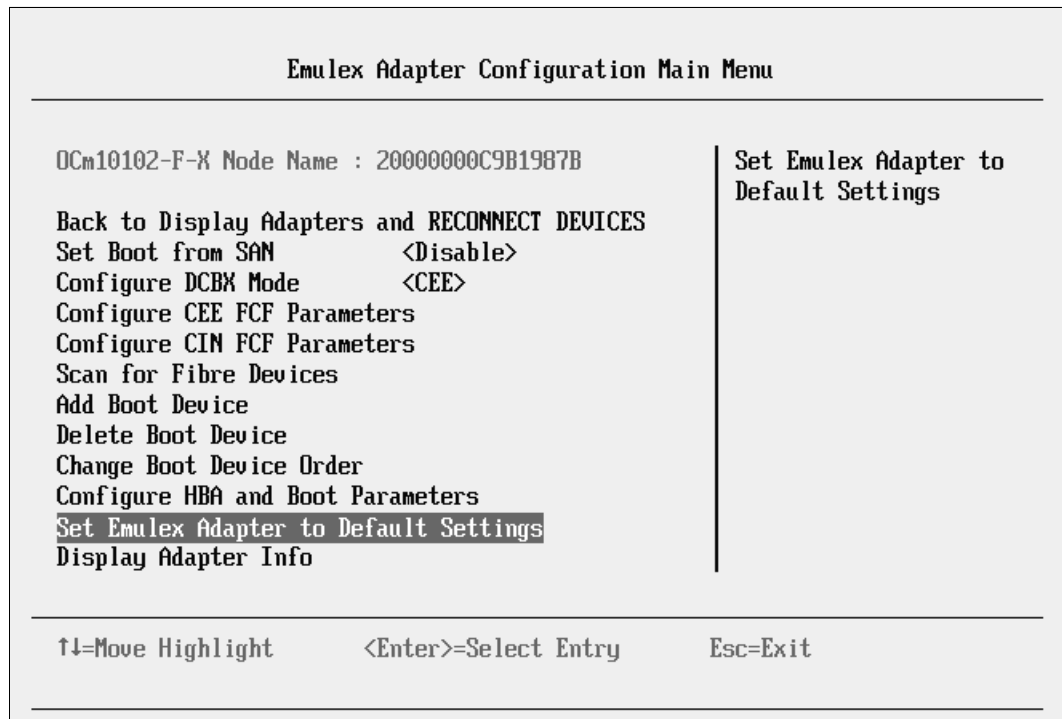

Figure 9-117 Emulex Adapter Configuration Main Menu panel
1. In the Emulex Adapter Configuration Main Menu panel (Figure 9-117), select **Set Emulex Adapter to Default Settings**.